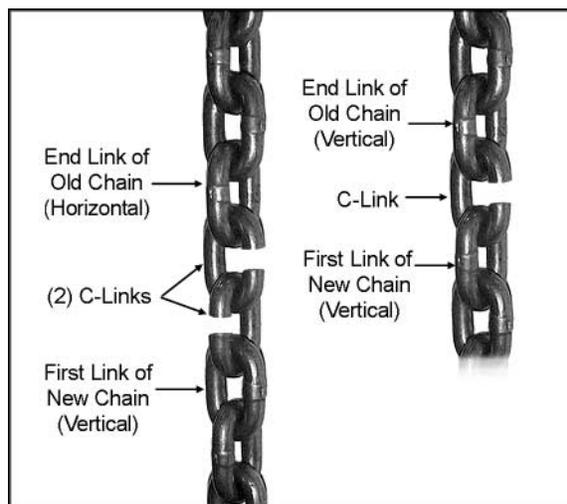

Figure 15
4. Using a C-link(s), connect the new chain to the old chain. If the end link of the old chain is horizontal, use two C-links. If the end link of the old chain is vertical, use one C-link. See Figure 15. Using the correct number of C-links will properly orient the chain, and ensure that the first link on the load side end is a horizontal link.